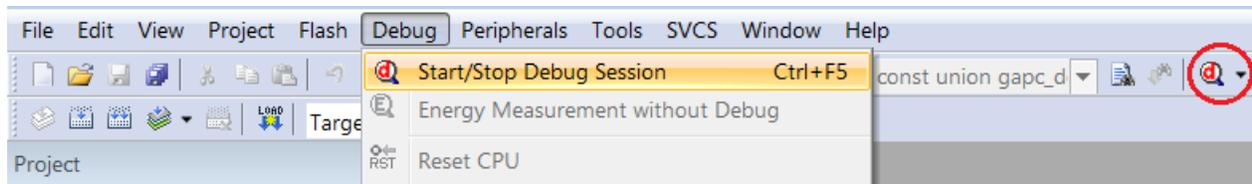

Figure 29. Start/Stop Debug Session Icon
2. Select **Debug > Start/Stop Debug Session** or click the icon shown in the "Start/Stop Debug Session Icon" figure (Figure 29).